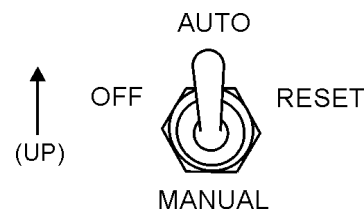

Figure 62. Off/Manual/Auto Switch (Manual)
- Place the Off/Manual/Auto switch (Figure 62) in the **AUTO** position (up). Observe that the engine begins to crank.